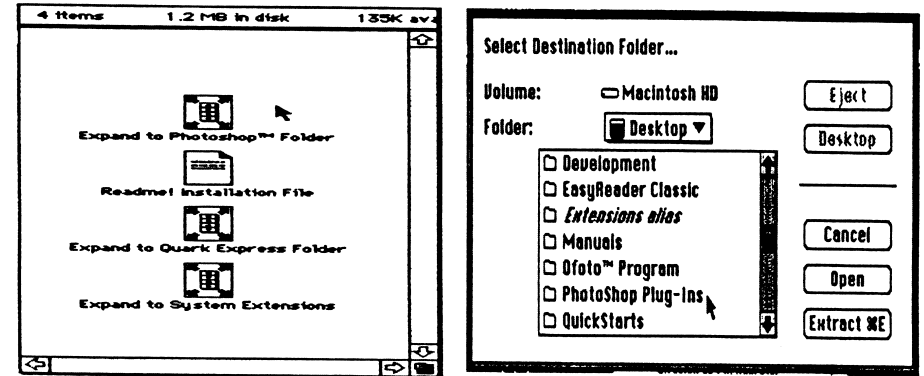

Figure 8
3. Click on Extract and uncompress the driver software into the destination folder (see Figure 8).